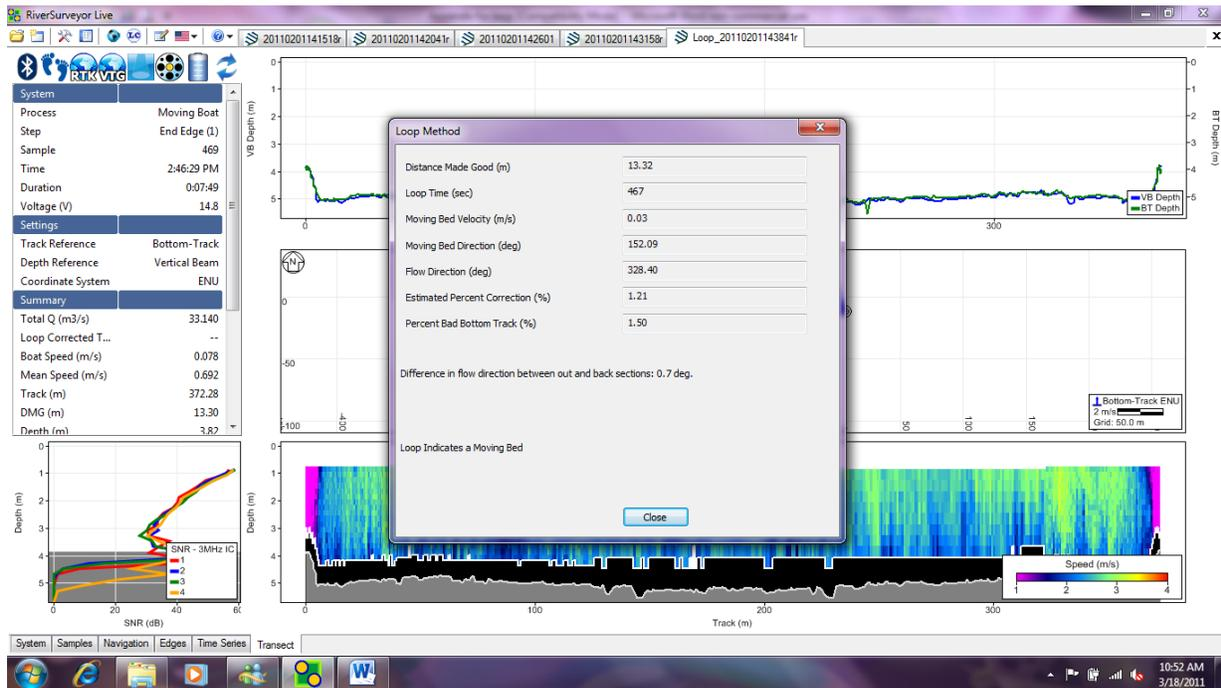

Figure 133. Loop Method Results
- The Loop Method results will be processed and displayed as shown in Figure 133. Click **Close** after the results are reviewed.